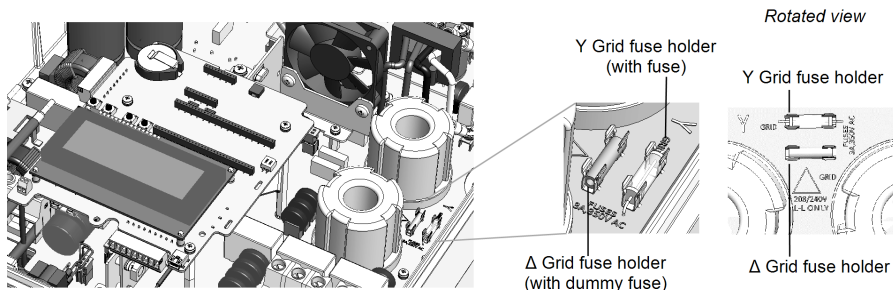

Figure 22: Fuse locations and markings
To set the inverter for delta grid connection, you must move the fuse from the WYE fuse holder, marked as Y GRID, to the Delta fuse holder, marked as Δ GRID (see Figure 22).
2. Identify the fuse locations and the markings as described in Figure 22.